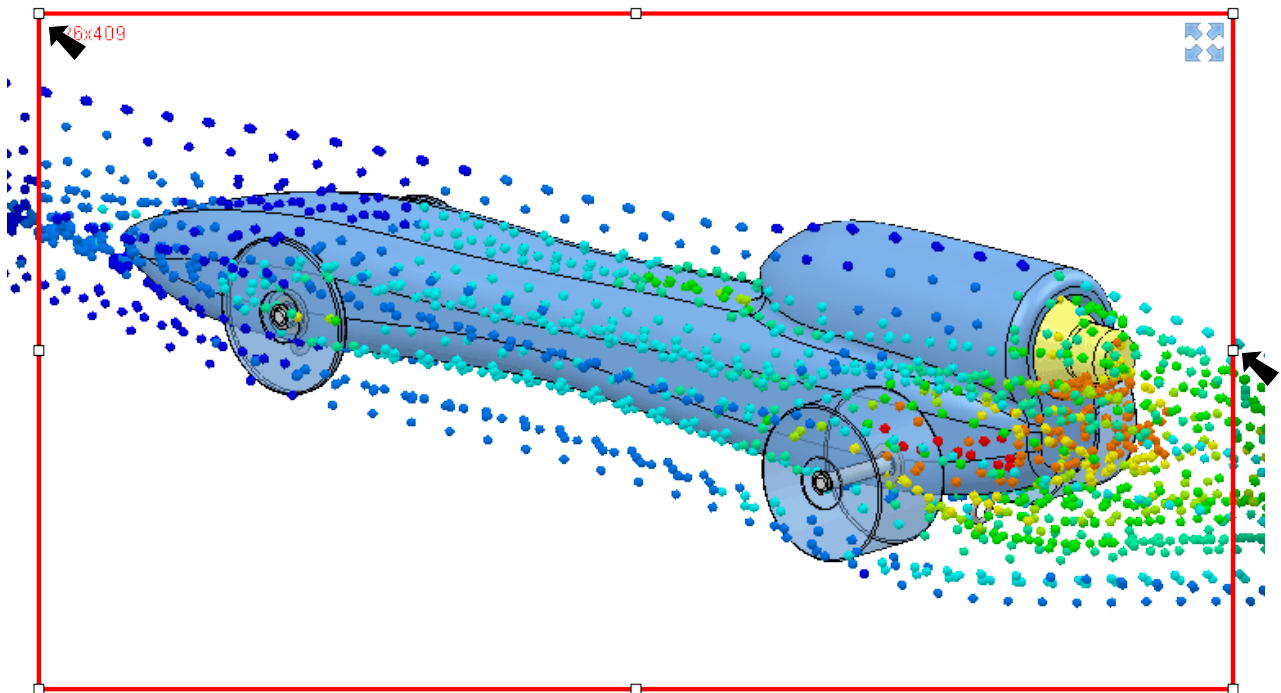

Fig. 42
Step 2. Rotate view to view **rear of car** as shown in Fig. 42. To rotate, hold down middle mouse button (wheel) and drag.
Step 3. Drag the red frame capture region in the graphics area to resize and move capture region, Fig. 42.